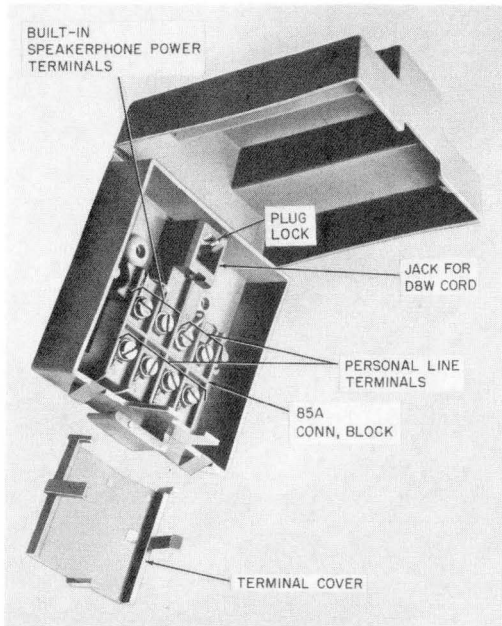

Fig. 13—86A Connecting Block
**3.21** Connect each set into the system with the attached D50AW-50 mounting cord; plug its free end into its assigned bridging adapter or extension cable. The BIS satellite desk stations require an additional connection to provide power for the built-in speakerphone. Mount the 86A block (Fig. 13) supplied with each BIS set in a convenient place near the station, and plug the D8W-50 cord extending from the back of the set into it. Use inside wire to connect terminals 7 and 8 of the 86A block to the 2012D transformer supplied with the set. **Do not plug the 2012D into an ac receptacle until all installation is complete.**